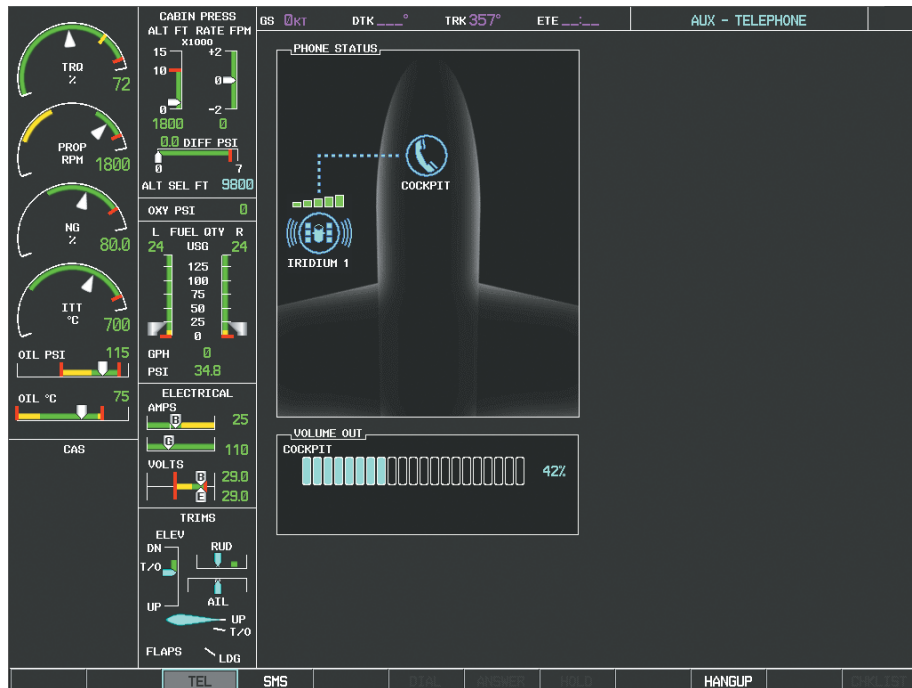

Figure 8-94 System is Making the Connection
- 5) Press the **ENT** Key. The system will begin calling the number, as in Figure 8-94.